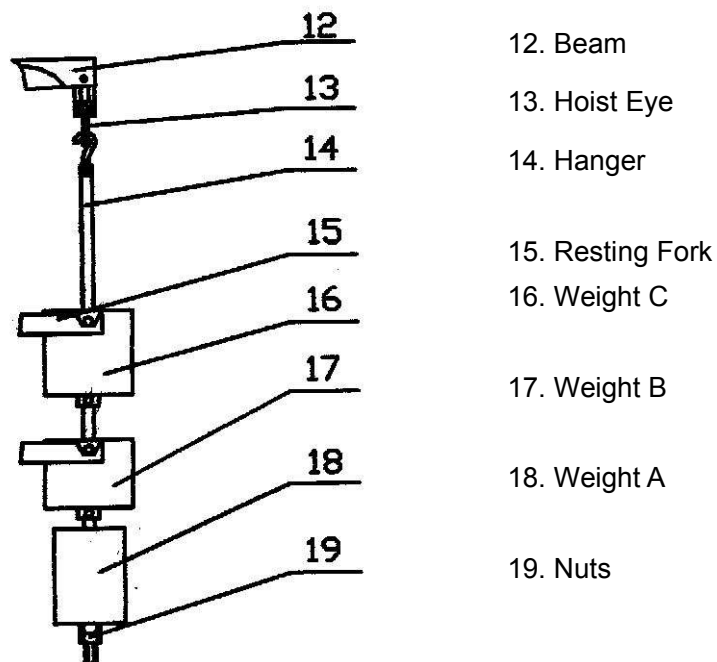

Figure 3
4.4 Installation of weights (figure 3)